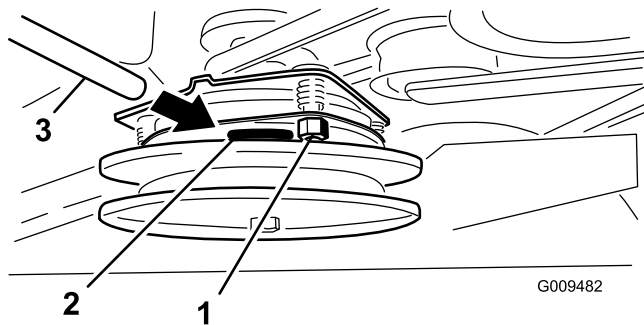

Figure 58
3. Tighten the locknuts until there is a slight binding on the feeler gauge, but it can be moved easily within the air gap (Figure 58).